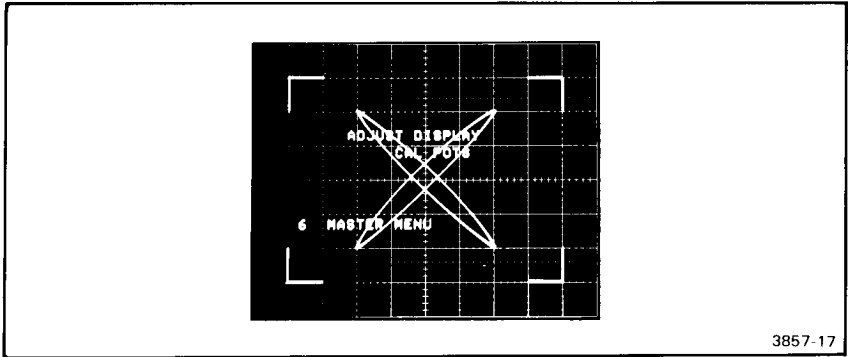

Figure 2-9. Adjust VERT CTR and VERT GAIN.
**Step 4** Adjust the VERT CTR (vertical center) and VERT GAIN (vertical gain) controls to align the upper and lower horizontal edges with horizontal lines 1 and 7 of the display graticule as shown in Figure 2-9 (bottom graticule line is 0). As with the HORIZ CTR and HORIZ GAIN controls, these vertical adjustments are interactive and may require that you work back and forth between them to optimize this adjustment.